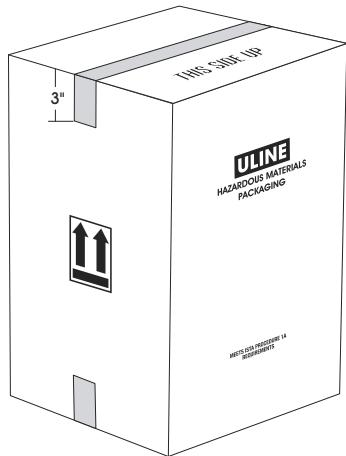

Figure 4
7. Seal top of carton with one strip of 2" wide (2.6 mil) polypropylene tape (Uline model # S-14564). The tape must extend 3" over each end of the carton. (See Figure 4)